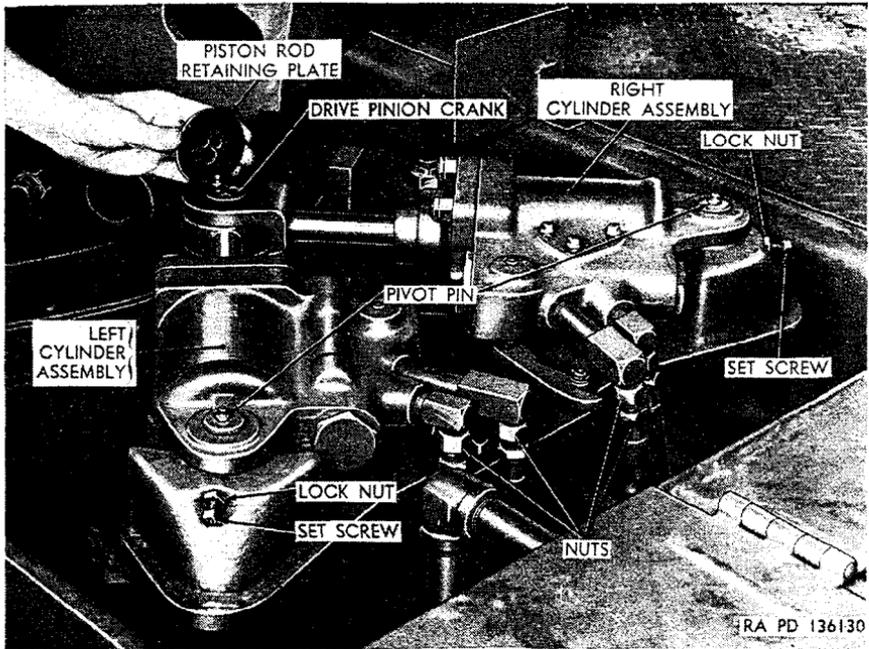

Figure 301. Removing piston rod retaining plate from drive pinion crank M62.
- (3) Cut locking wire, remove two cap screws securing piston rod retaining plate (fig. 301) to drive pinion crank, and remove plate from crank.
- (4) Unscrew four nuts (fig. 301) securing hydraulic lines to elbows installed in swing-hydraulic-motor cylinder assemblies, and remove lines from elbows.
- (5) Loosen two locknuts (fig. 301) and setscrews securing pivot pins in mounting brackets welded to base plate, and drive pins from cylinder bodies and brackets, and remove from underside of base plate.
- (6) Pivot each of the cylinder assemblies on the drive pinion crank to free the cylinder bodies from the mounting brackets. Lift the two cylinder assemblies together from the drive pinion crank. Pull the piston rods apart to separate the cylinder assemblies.
- (1) Position right cylinder piston rod over left cylinder piston rod, and install piston rods on drive pinion crank (fig. 301).
- (2) Position piston rod retaining plate (fig. 301) on crank, secure with two cap screws, and install new locking wire.
- (3) Pivot both cylinder assemblies on the drive pinion crank, and aline pivot pin bores in cylinder bodies with holes in mounting brackets. Install pivot pins (fig. 301) in holes in cylinder bodies and mounting brackets, and secure with setscrews. Tighten the two setscrew locknuts.
- (4) Position four hydraulic lines at elbows installed in left and right cylinder assemblies, and tighten connector nuts (fig. 301).
- (5) Time swing motor (*b* above).